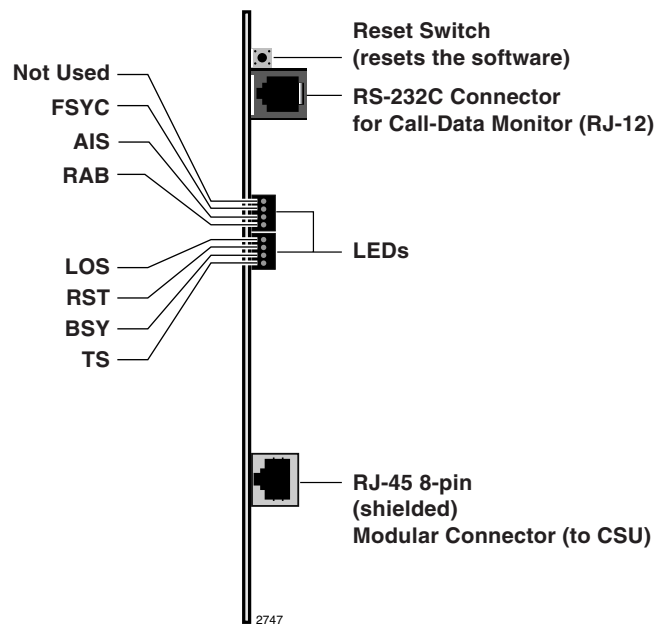

Figure 7-5 RPTU LEDs and Connectors
- **RPTU:** Set the SW settings for the proper cable length (see Table 7-7 on page 7-10 and Figure 7-5 on page 7-9).